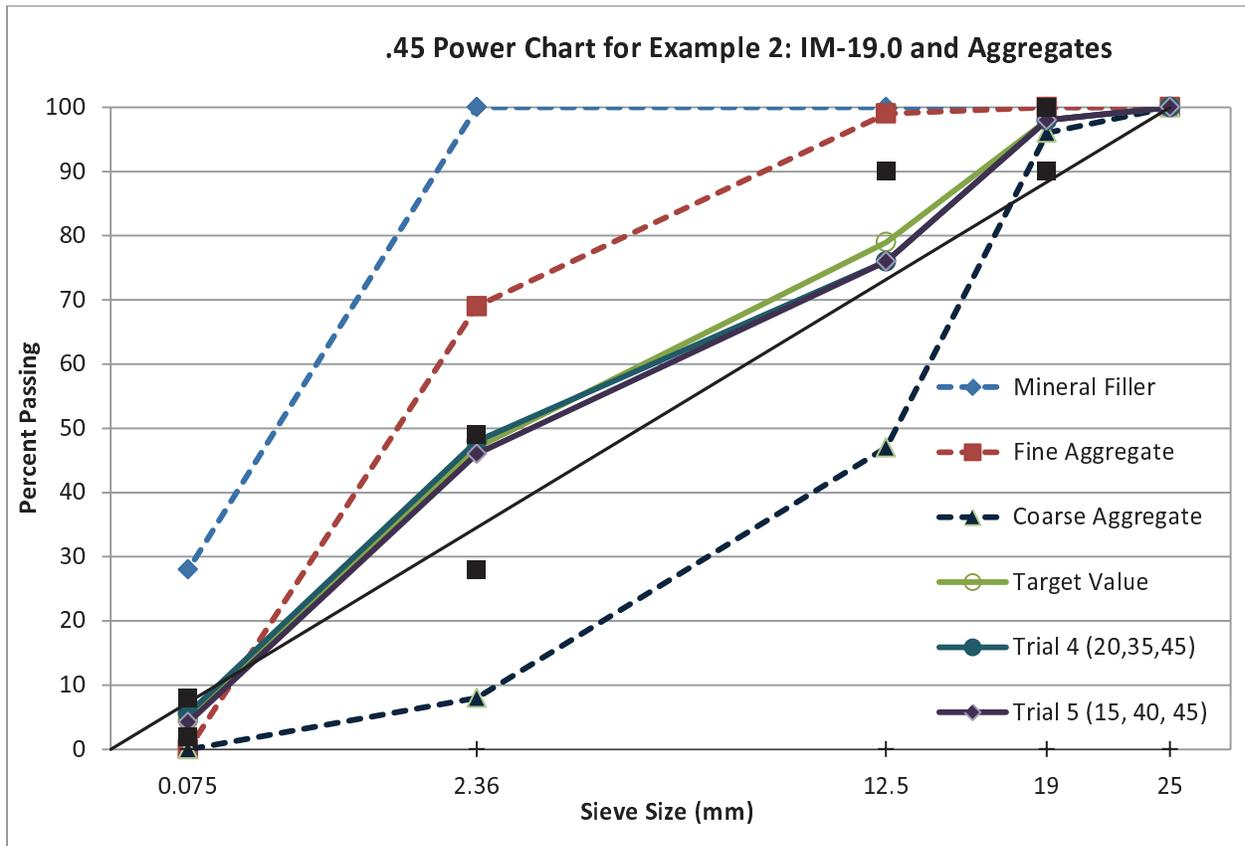

Figure 7-10: Data from Step 5-4 Plotted on .45 Power Chart
5.4 Recalculate Blend (using Trial 5). The results are illustrated below and in Figure 7-10.